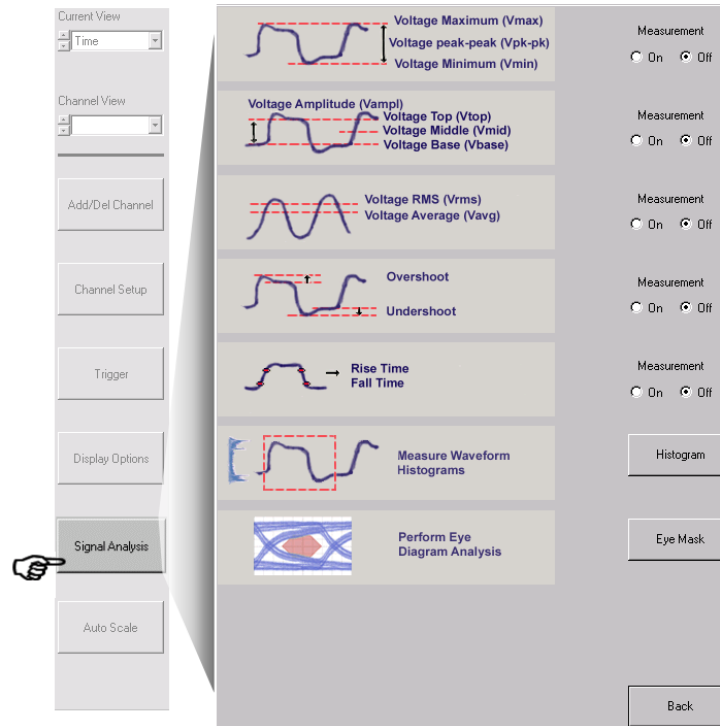

Figure 4 - Enabling Measurements
- Enable measurements from the main oscilloscope menu. Press **Signal Analysis** and toggle measurements 'On' or 'Off' (Figure 4)